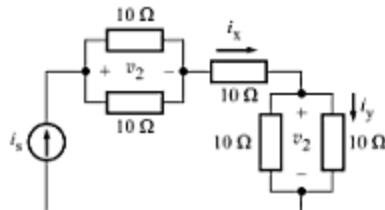

Fig. A-87
- A-49. Refer to the circuit of Fig. A-87. (a) If $i_x = 5$ A, find v_1 and i_y . (b) If $v_1 = 3$ V, find i_x and i_y .